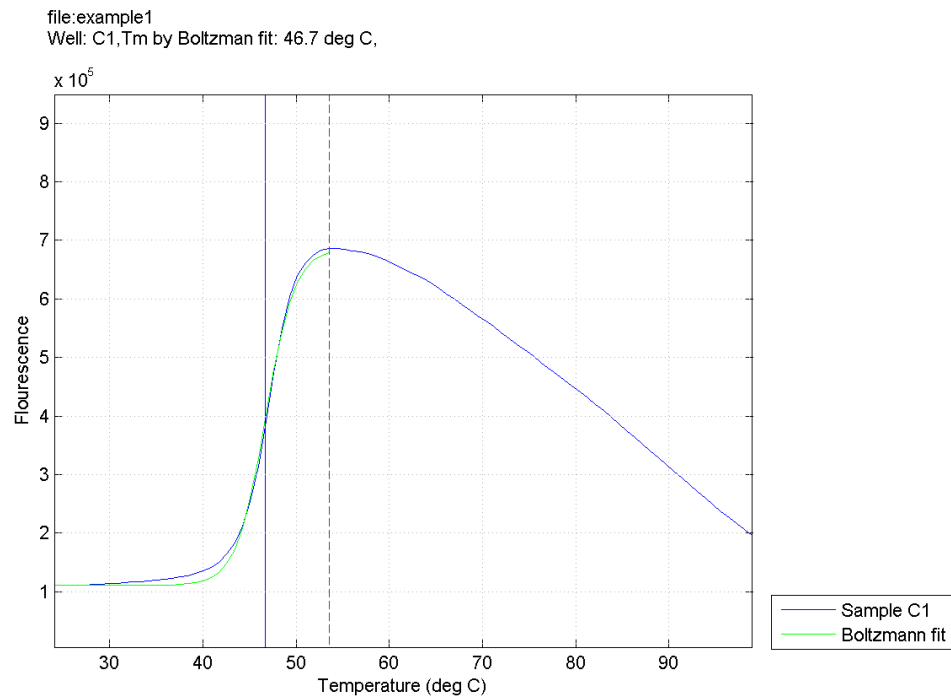

Figure 14: An example of where a custom region of analysis selection is recommended
- Another example is presented in Figure 14. The automated region of selection in this case was too broad which resulted in a poor fitting to the data. Fitting can be improved by a good choice of the region of analysis. Look at section 4.11 to learn how to define custom region of analysis for more accurate results.